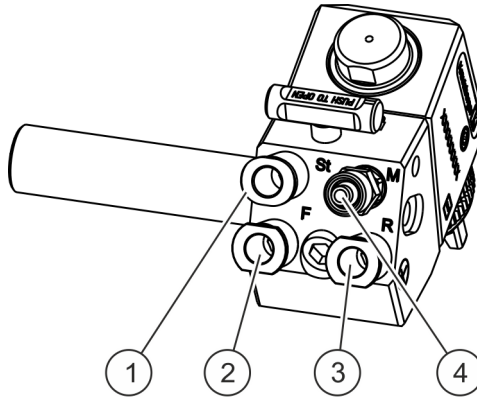

Fig. 6: Connecting the automatic spray gun
1. ➞ Connect the material line to connection "M" (Fig. 6/4).
2. ➞ Connect the control air to connection "St" (Fig. 6/1).
3. ➞ Connect the round jet air to connection "R" (Fig. 6/3).
4. ➞ Connect the flat jet air to connection "F" (Fig. 6/2).